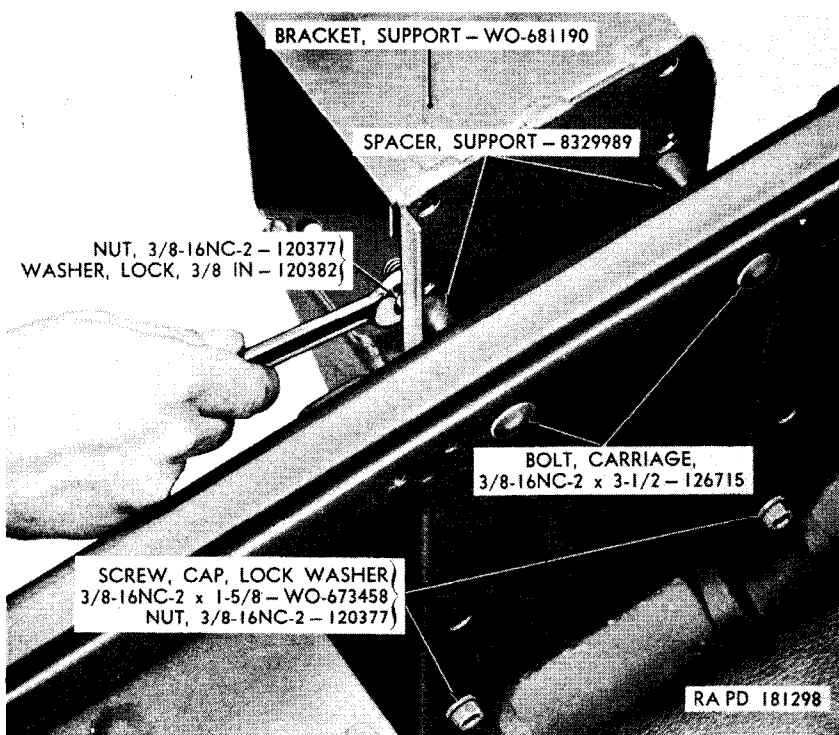

Figure 162. Removing spare wheel support bracket.
a. Spare Wheel Support Bracket (fig. 162). Remove spare wheel and tire assembly (par. 45). Remove two lockwashers, nuts, carriage bolts and support spacers securing top of support bracket to top of